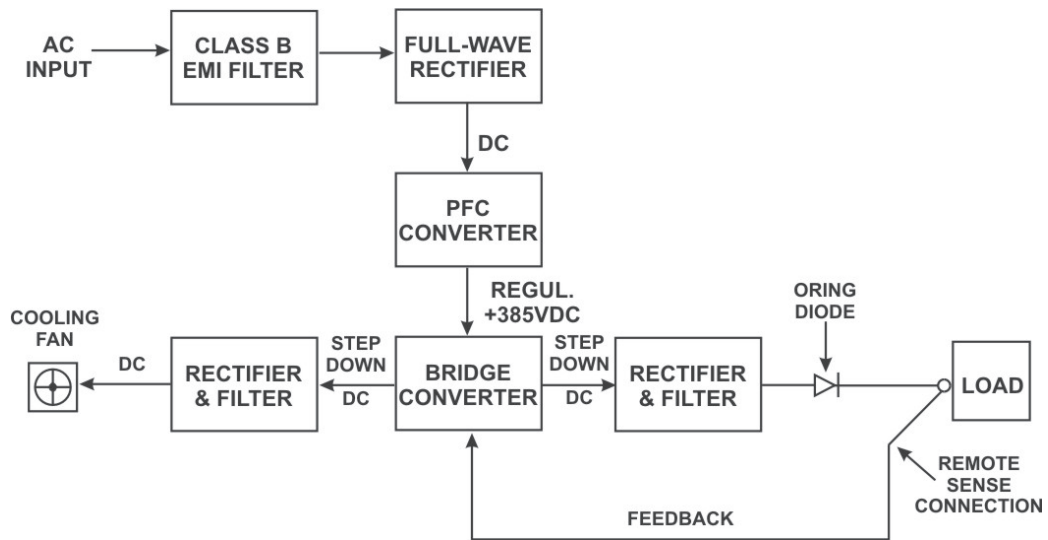

Figure 2. Block Diagram
- 7.1 Block Diagram.** A simplified diagram of a TWRI module is shown in Figure 2. The AC input first goes through a Class B EMI filter then to a full-wave rectifier and high-frequency (70kHz) power factor correction (PFC) converter. The output of the PFC converter is a regulated DC voltage at approximately +385V. This voltage is converted down to either 28VDC, 29VDC, 30VDC, 31VDC or 32VDC nominal, depending on the model. This is done by a bridge-configured converter operating at 70 kHz. The output of this converter goes through a rectifier, filter and ORing diode to the module output. Feedback from the remote sense terminals goes back to the converter's pulse-width modulator which regulates the output voltage and keeps it constant.